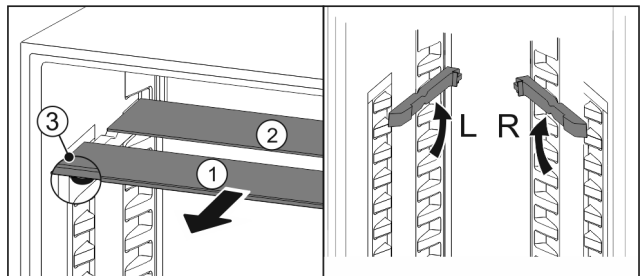

Fig. 129
- Pull the glass panels out Fig. 129 (1) from the front, one at a time.
- ▷ The glass panel *Fig. 129 (1)* and trim strip are at the front.
- ▷ The stops *Fig. 129 (3)* point down.